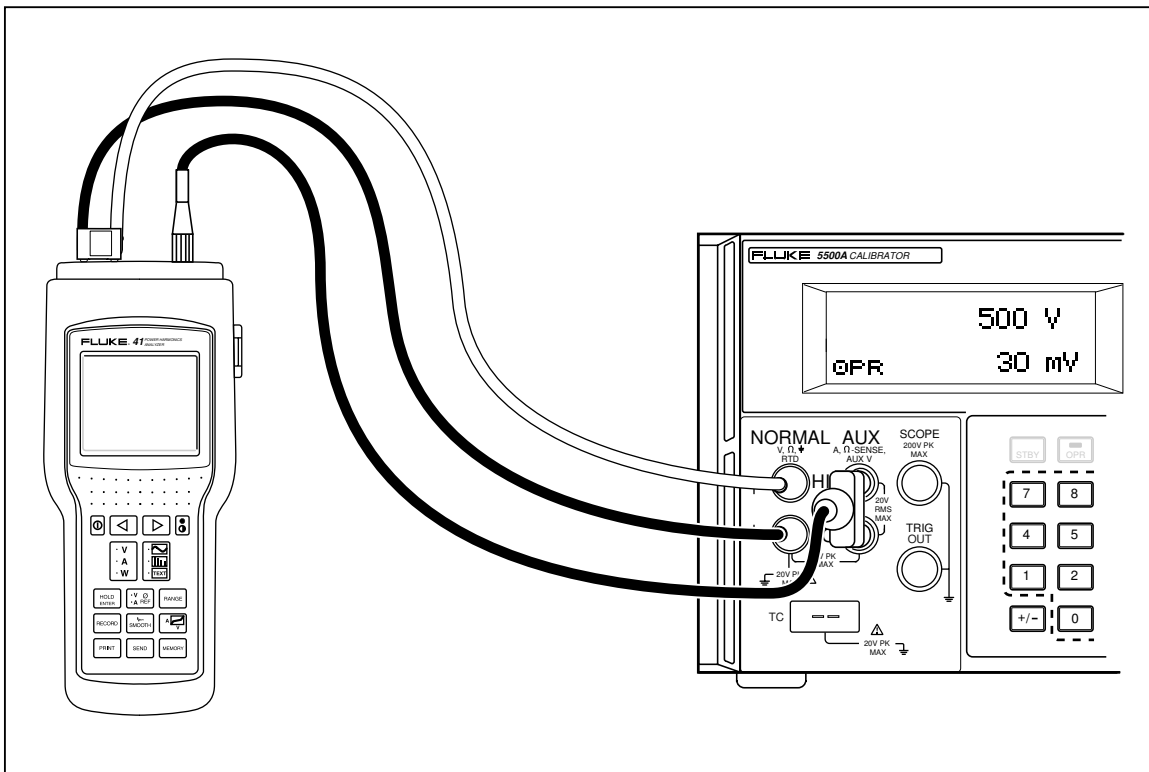

Figure 4-18. Cable Connections for Testing a 40 Series Watts Function
1. Connect the calibrator to the Model 41 as shown in Figure 4-18.